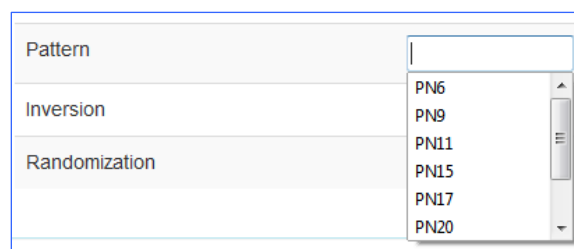

Figure 264: Data Generator, Pattern Selection
- Pattern – Sets the data pattern produced by the data generator, as shown in Figure 264; This may be a fixed pattern or a pseudorandom pattern that repeats based on the chosen pattern/sequence (a shorter pattern looks more regular, a longer pattern looks more random)